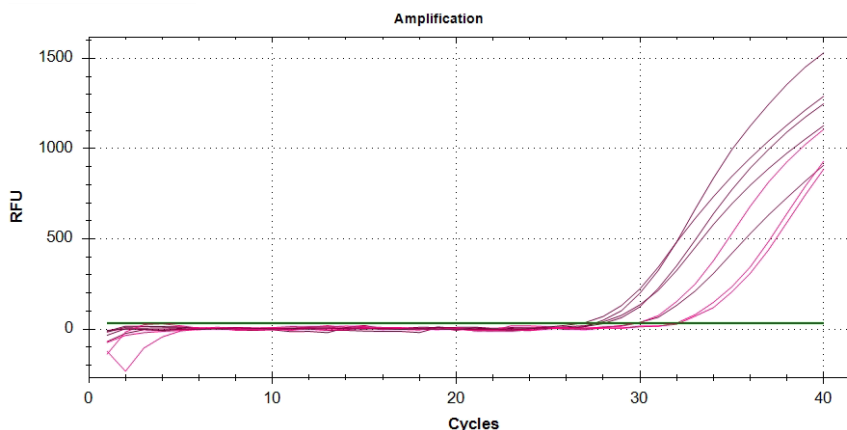

Figure 2: Typical course of amplification and threshold setting for Ct determination.
- Export the qPCR data and perform an amplification check. Save the Ct values for possible later control. Check the correct threshold setting (baseline threshold) for Ct determination at approximately 3–5% RFU of the final average fluorescence value (RFU in cycle 40), and also above the fluorescence noise in the initial phases of amplification (Figure 2). qPCR data from samples processed with the fastGEN TERT Cancer kit should be analyzed independently of other kits. In case of changing fluorescence values (gradual decrease or increase in fluorescence) during the initial phase of amplification (cycles 1-15), analyze qPCR data from cycles 10–15.